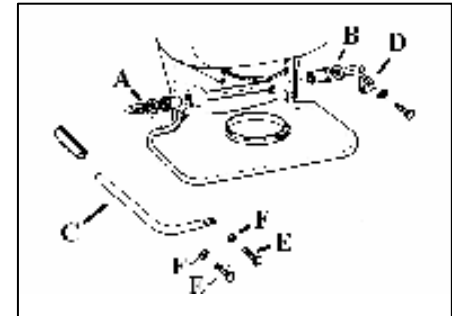

Fig. 40. Pump Lever Assembly.
- a. Place lever handle (Fig. 40-C) onto the shaft (Fig. 40-A). Align bolt holes and install the two bolts (Fig. 40-E) and washers (Fig. 40-F); then tighten. To install pump lever on the opposite side, remove the stop plate (Fig. 40-D) and washer, install the pump lever as above. The stop plate (Fig. 40-D) should be mounted on the inner bolt hole, with the closed end of the stop plate pointing downward on the opposite side of the pump shaft.